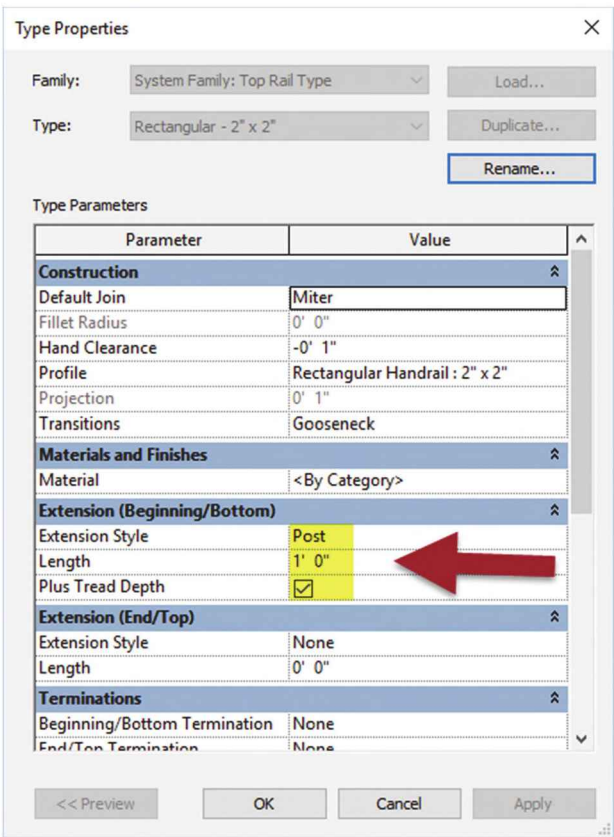

FIGURE 7-8.21 Editing Top Rail properties
36. Make the following changes (Figure 7-8.21):